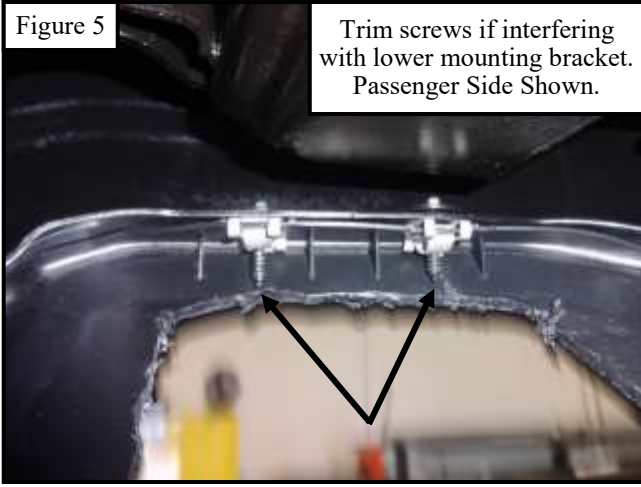

Figure 6
5. For **2015-2017 Models Only**: Remove all factory hardware and clips attached to grille, then remove grille. See **Figures 6 - 12**.